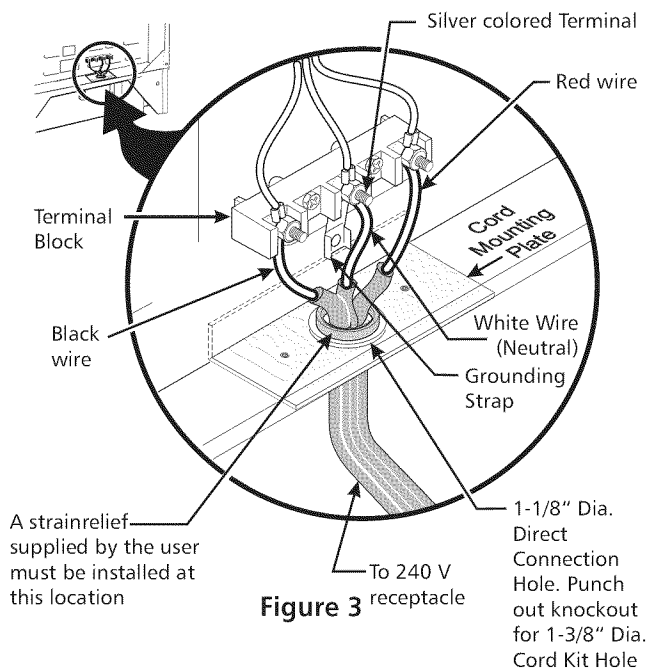

Figure 3
NOTE: Range is shipped from factory with 1 1/8" dia. hole as shown in figure 3. If a larger hole is required, punch out the knockout.
If local codes permit connection of the frame grounding conductor to the neutral wire of the copper power supply cord (see Figure 3):
4. Replace the 3 nuts on the terminal block (see fig. 3).